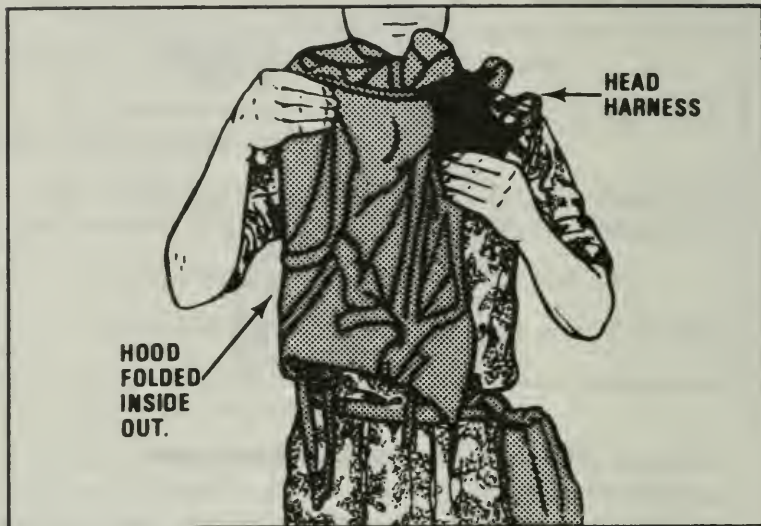

Figure 238. Pull hood over the front of mask.
a. Hold the edges of the facepiece with one hand. With the other hand, gently pull the hood over the front of the mask inside out (Figure 238).